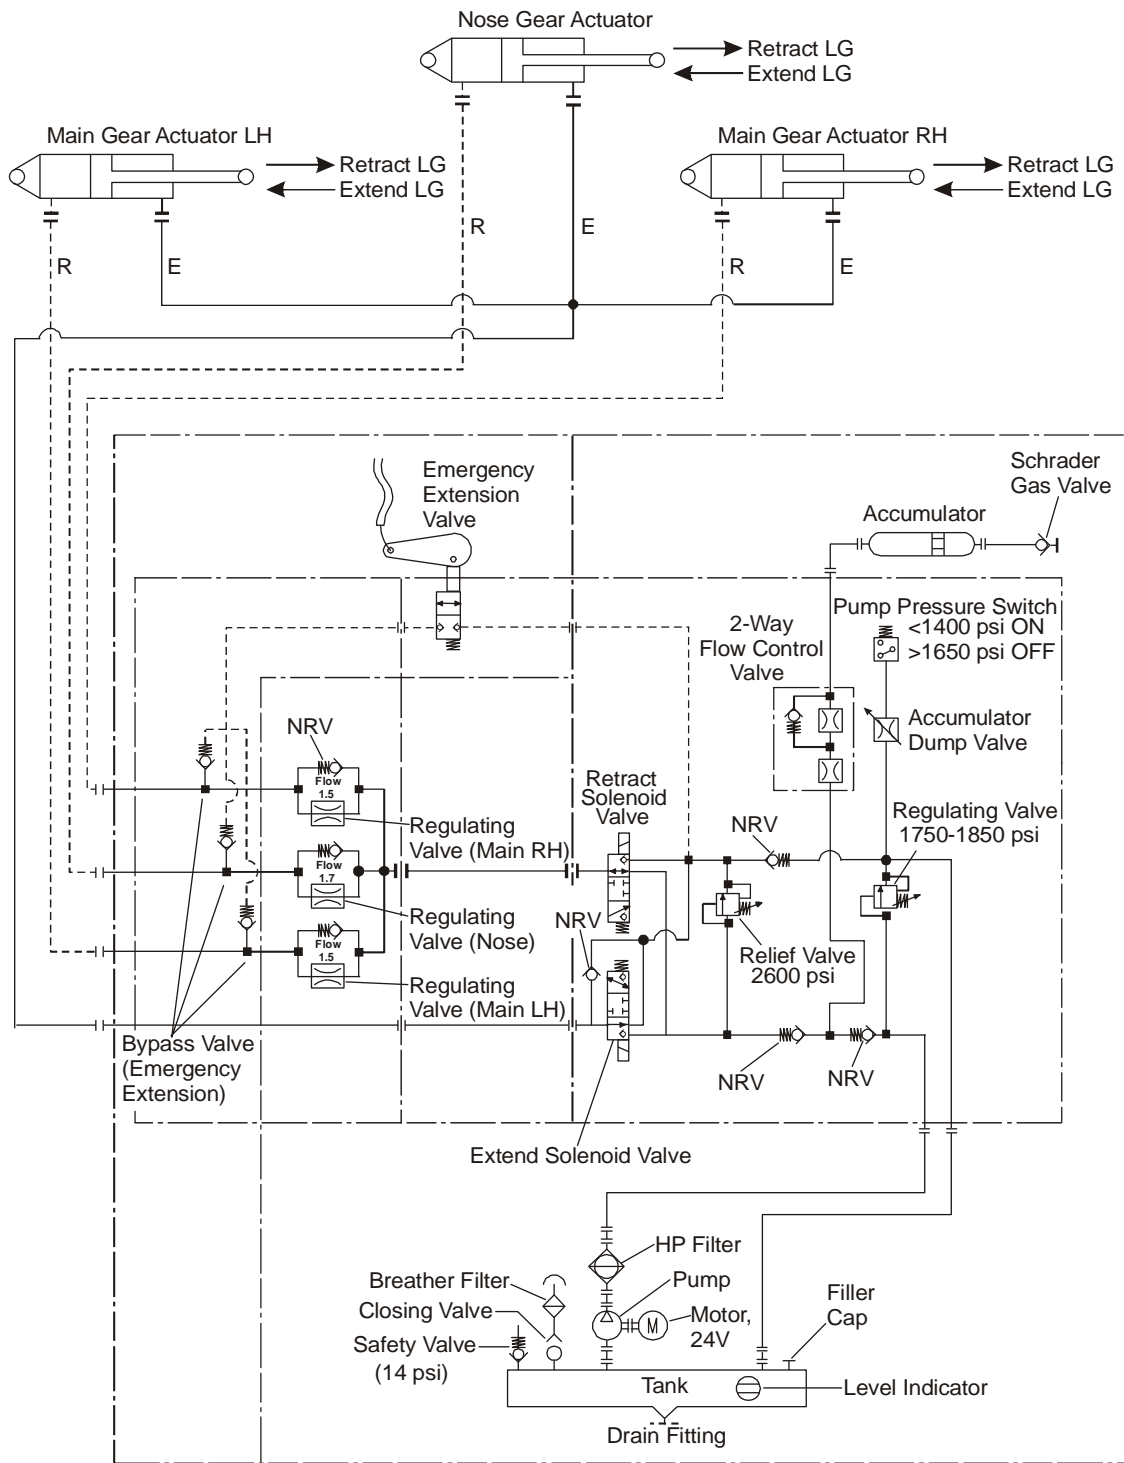

Figure 5: Hydraulic Schematic Diagram - 'Full Pressure' Retraction Operation
- When the landing gear is fully retracted the nose landing gear UP micro switch operates and the extend solenoid valve is energized and moves to the 'full pressure' position (Figure 5). Fluid returning from the extend side of the actuators flows through the extend solenoid valve and back into the reservoir. The full pump pressure acting on the retract side of the actuator pistons holds the landing gear in the fully retracted position.